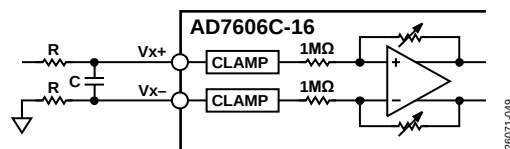

Figure 76. Input Resistance Matching on the Analog Input of the AD7606C-16 for Single-Ended Ranges (V_{x-} Tied to Ground)
It is recommended to place a series resistor on the analog input channels to limit the current to ± 10 mA for input voltages greater than ± 21 V. In an application where there is a series resistance (R) on an analog input channel, V_{x+} , it is recommended to match the resistance (R) with the resistance on V_{x-} to eliminate any offset introduced into the system, as shown in Figure 76. However, in software mode, there is a per channel system offset calibration that removes the offset of the full system (see the System Offset Calibration section).